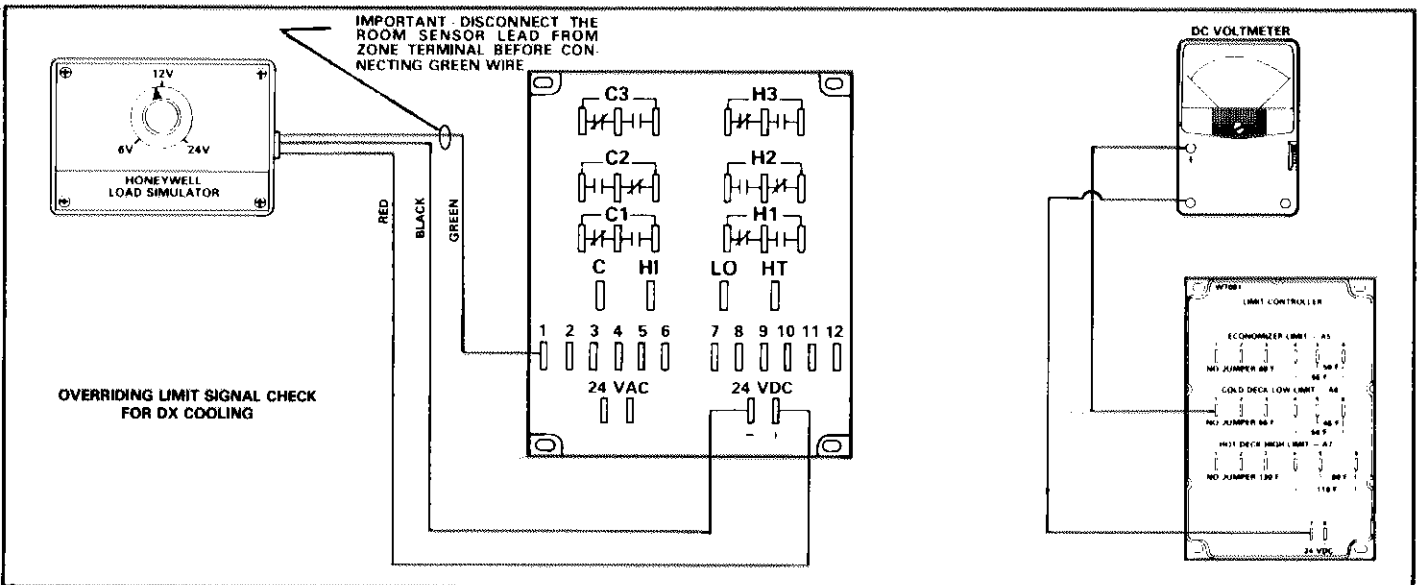

FIGURE 78
- 1 - Connect DC voltmeter negative lead to terminal #7 of limit controller (A6) and positive lead to terminal #1 of limit controller (A6). See Figure 78.